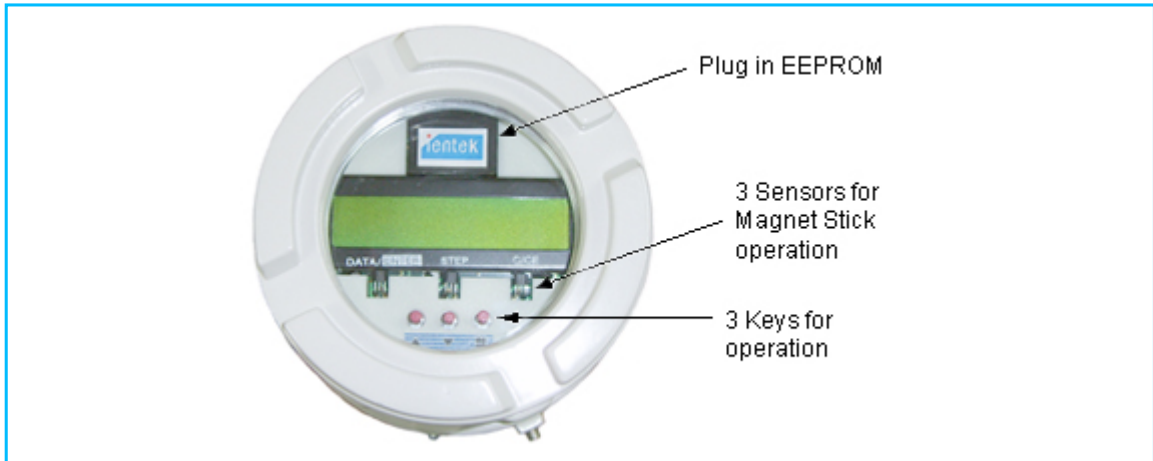

Fig. 43 : Display Board
- Check that the EEPROM is plugged into the socket on the display board of the converter (see Fig. 43). There is a sticker on this EEPROM which has the same order and end numbers as those listed on the factory tag of the flowmeter primary. **Both must be identical!**